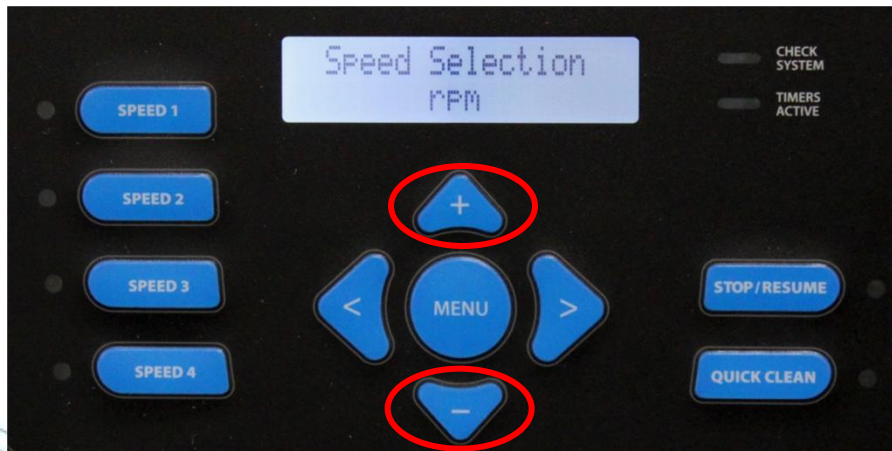

Figure 31
8. You now select the speed indicator for RPM (revolutions per minute) or % of full speed (100% equals 3450 RPM) by pressing the  &  buttons (fig 31 & 32). The setting you select will be used throughout programming. Press the  button to continue.